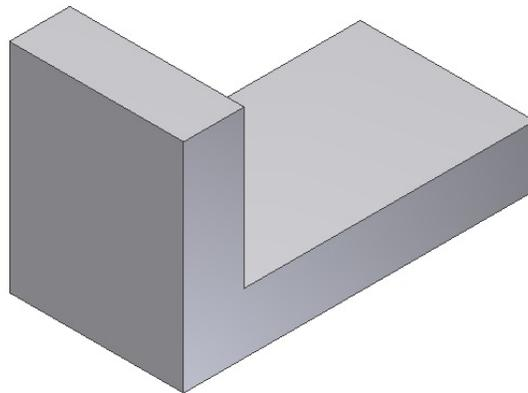

Figure 5-90 Base feature
1. Choose the **Extrude** tool from the **Create** panel of the **3D Model** tab to invoke the **Extrude** dialog box. Next, extrude the sketch to a distance of 72 mm using the **Symmetric** button. You can also choose the **Symmetric** option from the mini toolbar. Choose **OK** to exit the **Extrude** dialog box. The base feature is created, as shown in Figure 5-90.